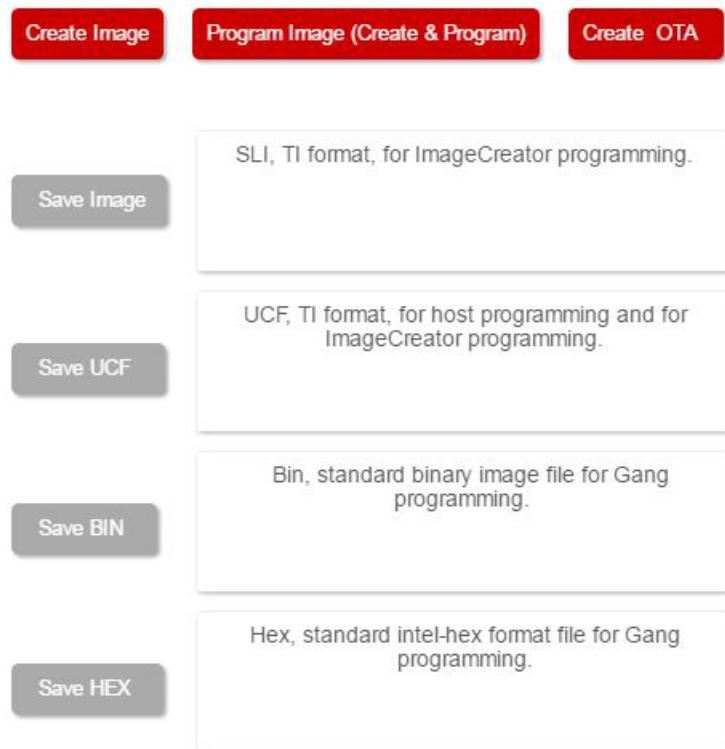

Figure 3-18. Generate Image
6. Click on Program Image (Create & Program), as shown in Figure 3-18. This step might take a minute.